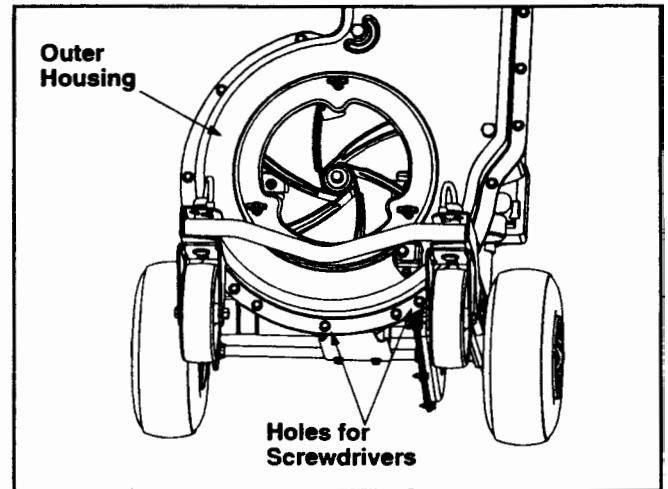

Figure 20
- Place the outer housing against the inner housing. Insert two screwdrivers into the holes to hold the blades in place while attaching the outer housing. See Figure 20.